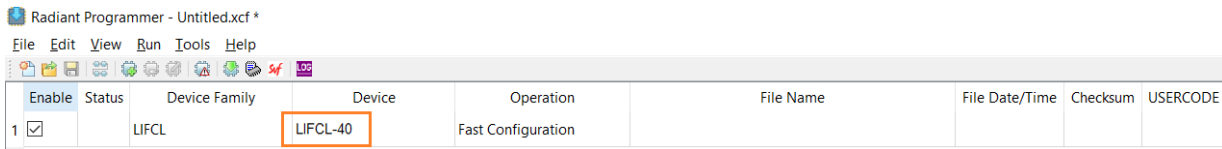

Figure 5.8. CrossLink-NX FPGA Device Settings
5. If the Programmer settings do not match the settings shown in Figure 5.8 for CrossLink-NX devices, Figure 5.9 for Certus-NX devices, or Figure 5.10 for CertusPro-NX devices, or Figure 5.11 for MachXO5-NX select these settings manually from the drop down menu.